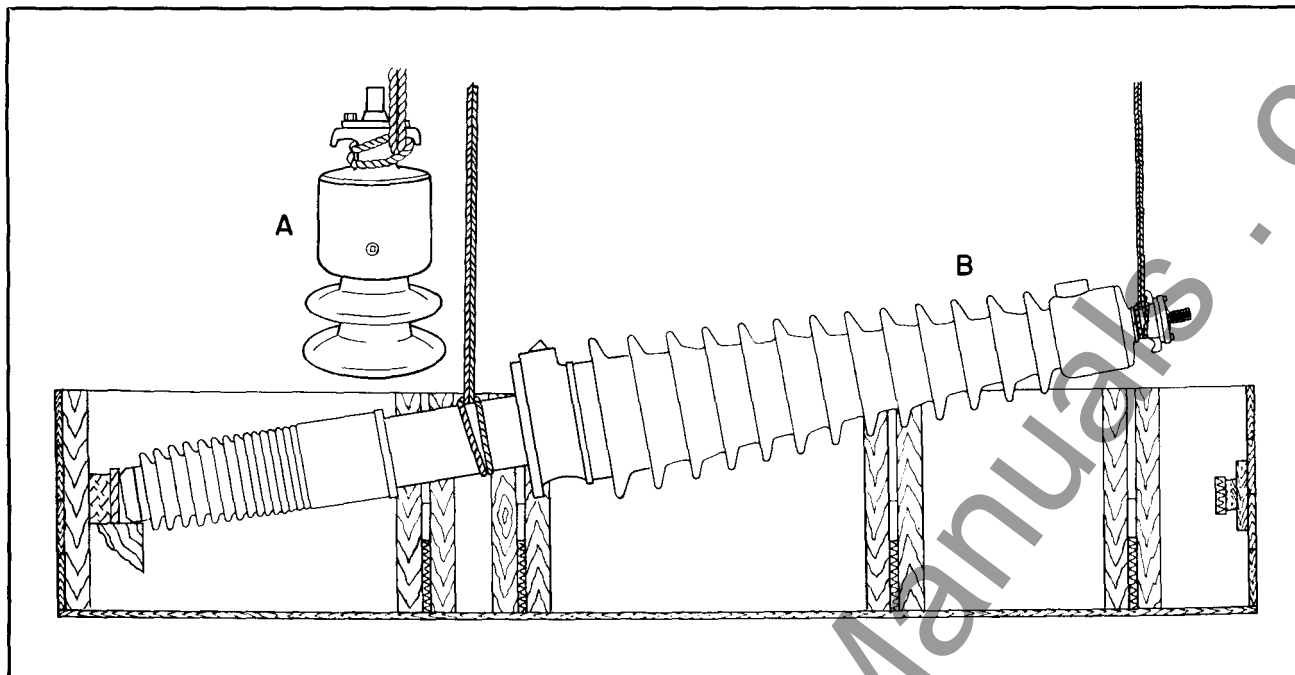

FIG. 1. Lifting Bushing (A) from Vertical Position, (B) from Horizontal Position
**Lifting.** The type "O" bushing can be lifted from a horizontal to a vertical position and lifted in a vertical position by a rope or steel cable looped around the top nut under the lifting lugs. See A, Fig. 1.
When lifting from the blocking in a horizontal packing case it is desirable to use a double hoist with one lift at the flange and one looped around the top under the lifting lugs. See B, Fig. 1. When upending the bushing keep the lower end on felt or wood, braced to protect threads and prevent slipping and keep porcelain away from the floor.